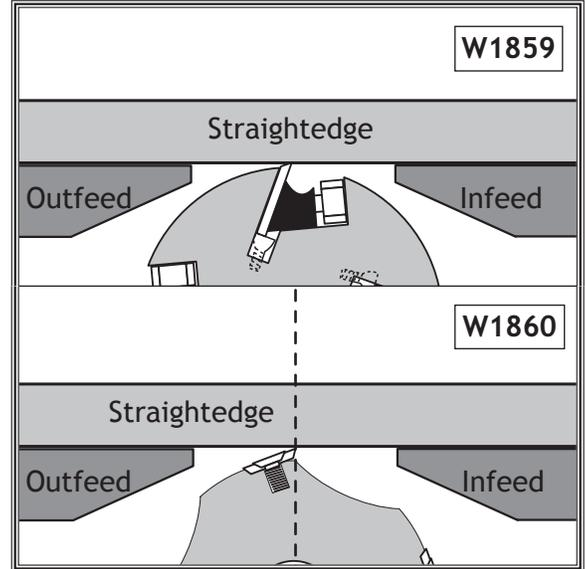

Figure 58. Infeed table even with outfeed table.
4. Adjust the infeed table until it is even with the outfeed table (see **Figure 58**).